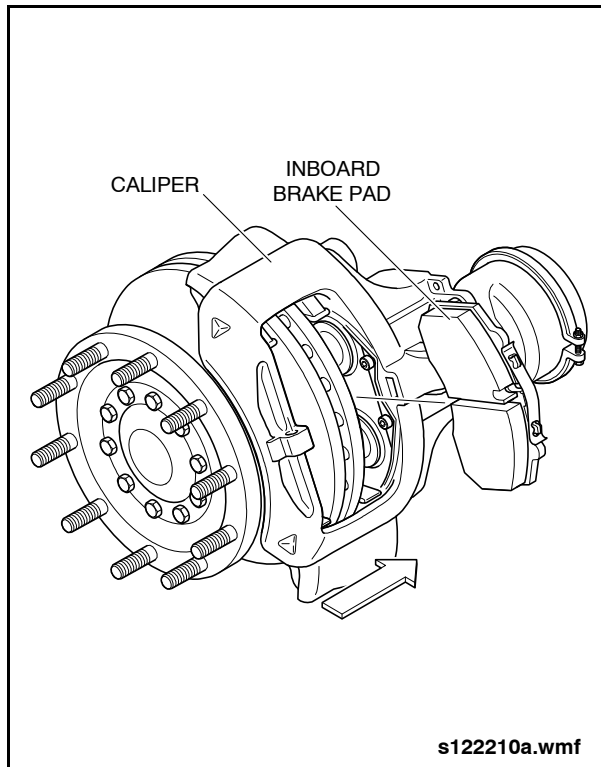

Fig. 3: Brake Pad Installation
1. Push the brake caliper inward against the stop and insert the inboard brake pad. See Fig. 3: Brake Pad Installation on page 5.